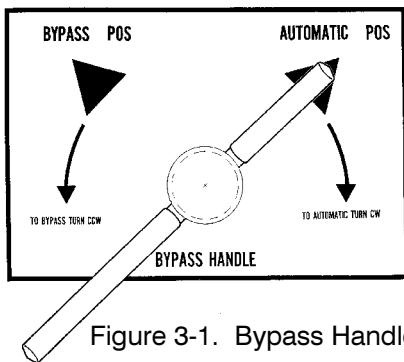
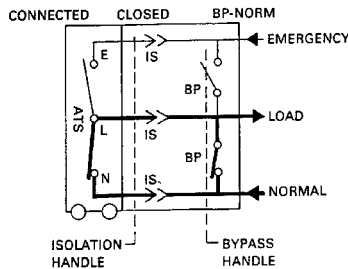
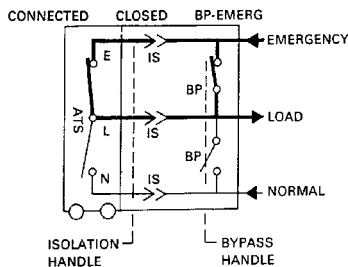

Figure 3-1. Bypass Handle.
Figure 3-2. Bypass to Normal.
Figure 3-3. Bypass to Emergency.
2. Bypass to the **same** source connected to the load as follows (select direction). See Figure 3-1, Figure 3-2, and Figure 3-3.